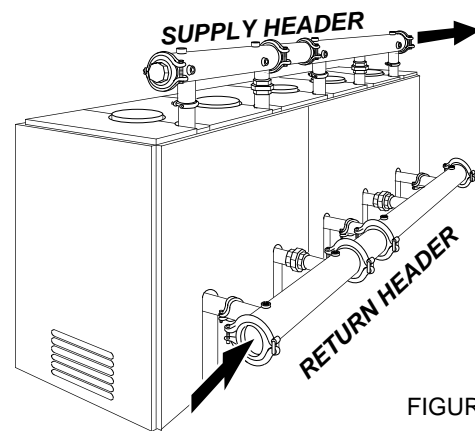

FIGURE 3.1
1. Whether installing factory-supplied headers or field-fabricated headers, **WATER PIPING MUST BE INSTALLED TO PROVIDE REVERSE RETURN FLOW** (see Figure 3.1). This piping arrangement ensures adequate flow to every heating plant module.